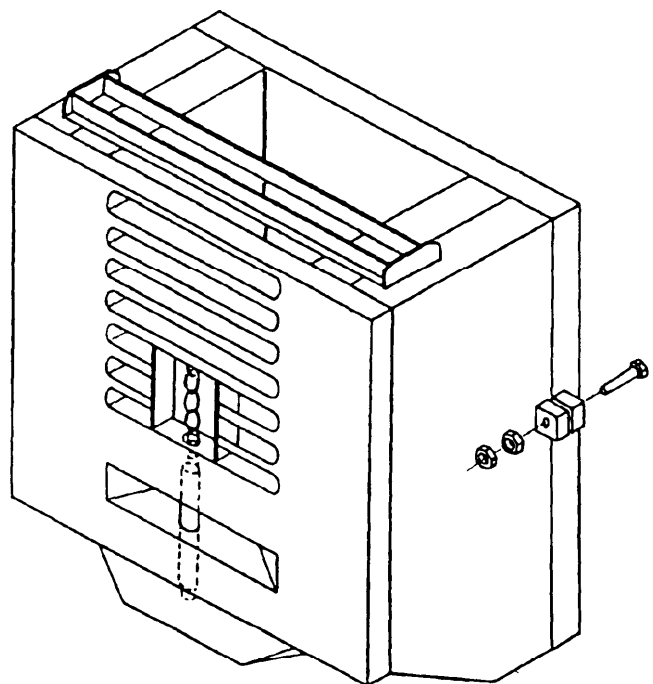

Figure 8-9.—Counterweight.
1. Remove the two bolts (one on each side of the forklift) that secures the counterweight (fig. 8-9).